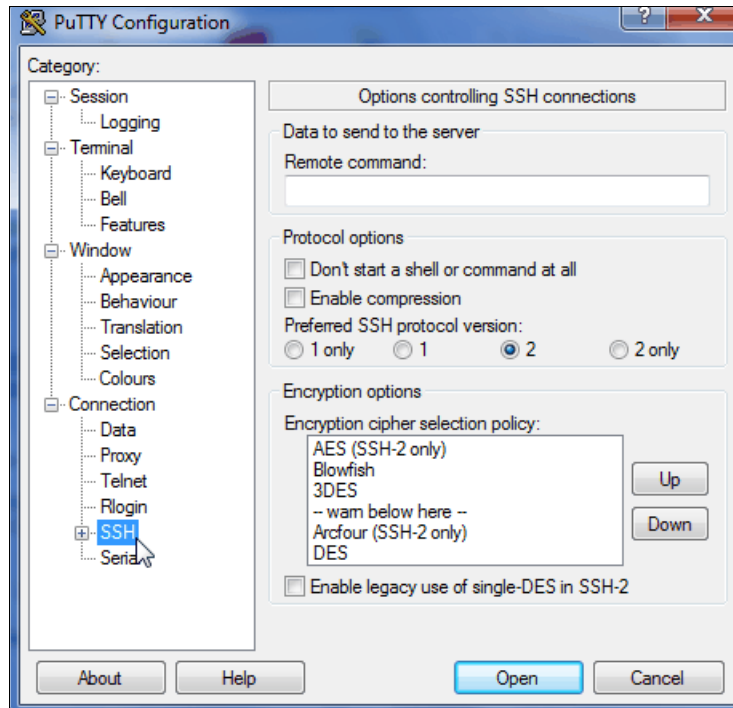

Figure A-10 SSH protocol version 2
- From the Category pane on the left side of the PuTTY Configuration window, click **Connection** → **SSH** to open the PuTTY SSH Configuration window, as shown in Figure A-10.